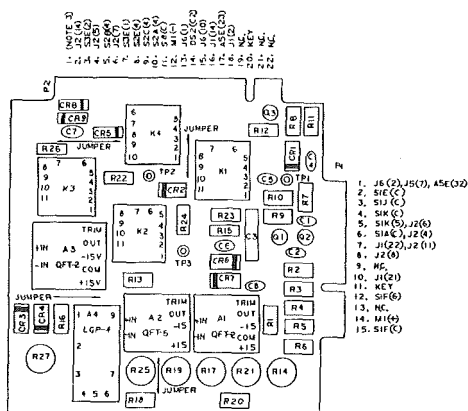

Figure 5-3. Relay & Amplifier Assembly (A3) Adjustments.
b. Adjust potentiometer R14 for a voltmeter indication of  $0V \pm 300\mu V$ . See Figure 5-3. for the location of this adjustment.
d. Adjust potentiometer R25 for a voltmeter indication of  $0V \pm 300\mu V$ . See Figure 5-3. for the location of this adjustment.
f. Adjust potentiometer R21 for a voltmeter indication of  $0V \pm 300\mu V$ . See Figure 5-3. for the location of this adjustment.
b. Adjust potentiometer R27 for a voltmeter indication of  $100mV \pm 1mV$ . See Figure 5-3. for the location of this adjustment.
b. Adjust potentiometer R17 for a front panel meter indication of  $60dB \pm 0.5dB$ . See Figure 5-3. for the location of this adjustment.
d. Adjust potentiometer R19 for a front panel meter indication of  $114dB \pm 0.5dB$ . Allow sufficient time for the meter indication to settle. See Figure 5-3. for the location of this adjustment.